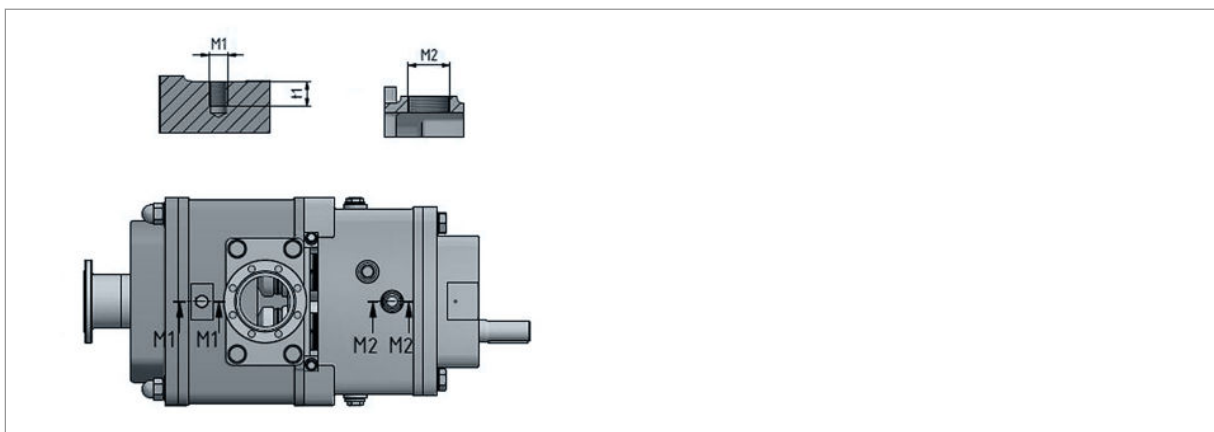

Fig. 6: Thread sizes for lifting lugs (see table below for details)
1. ➤ Select lifting lugs according to Fig. 6 and ➔ Tab. 4 'Thread sizes for lifting lugs' on page 25 and attach them to the pump.